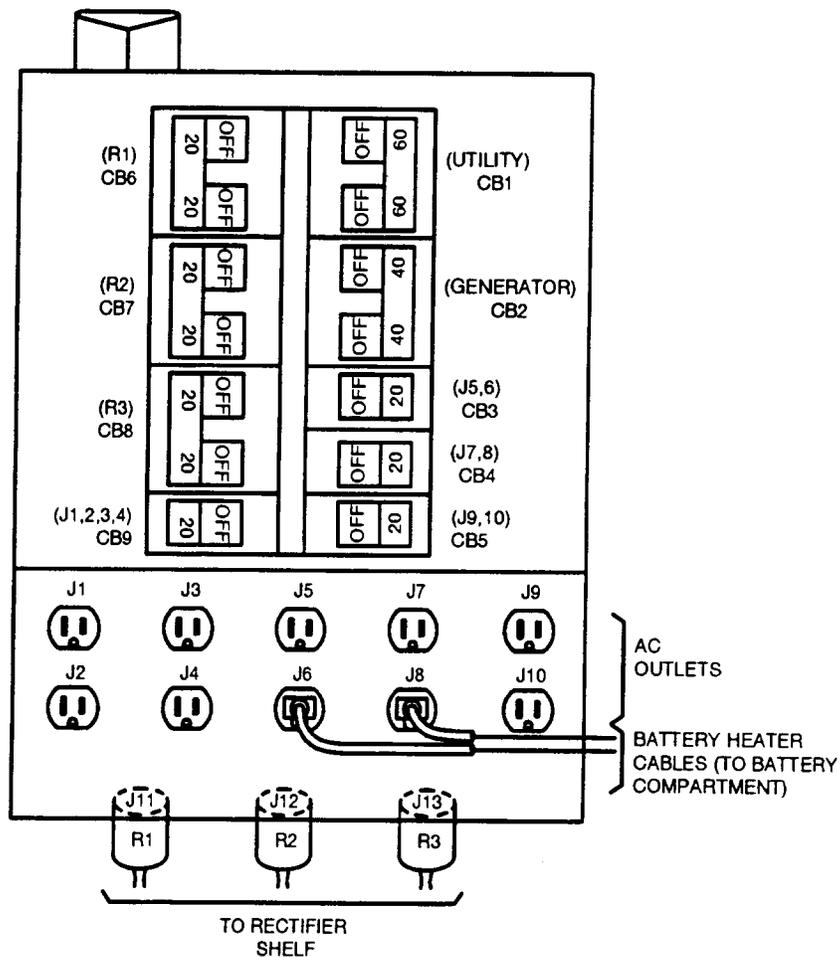

Figure 1 — AC Power Panel in ED-7C703-30 80E Cabinet
1. On AC power panel, verify that AC power (utility) **CB1** circuit breaker is off and **CB6** (R1), **CB7** (R2), and **CB8** (R3), circuit breakers (for AC feeders to rectifier shelf) are also off (Figure 1).